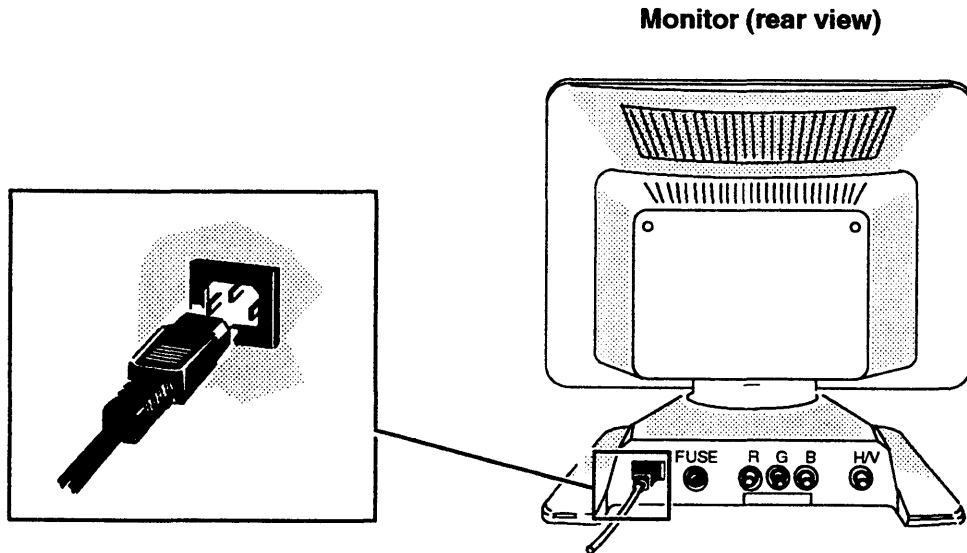

Figure 2-4 Connecting the Color Monitor Power Cord
2. Plug the female end of the monitor power cord into the ac connector at the back of the monitor. Plug the male end of the monitor power cord into an ac outlet. Figure 2-4 illustrates how to connect the monitor cord.